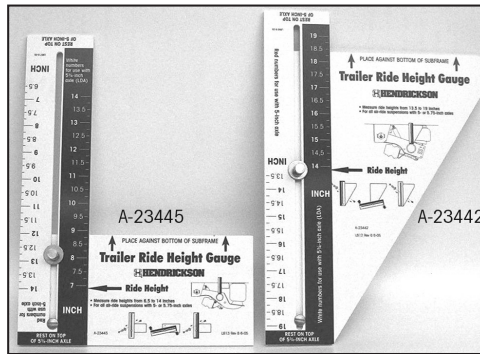

Figure 2: Hendrickson ride height gauges
1. Using a Hendrickson Ride Height Gauge (Figure 2).